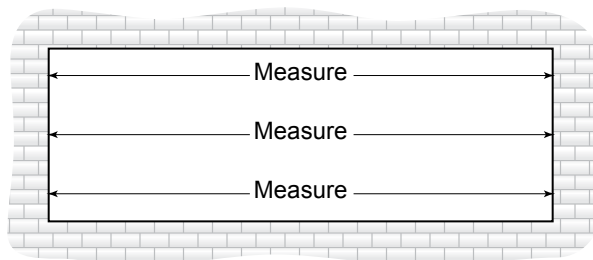

Fig. 24.2
- B. Measure the width of the opening (Rough Opening) at the top, middle and bottom. Select the smallest of these dimensions and subtract the left and right caulk joint width per approved shop drawing (1/2" minimum caulk joint at jams). **SEE Fig. 24.2.**